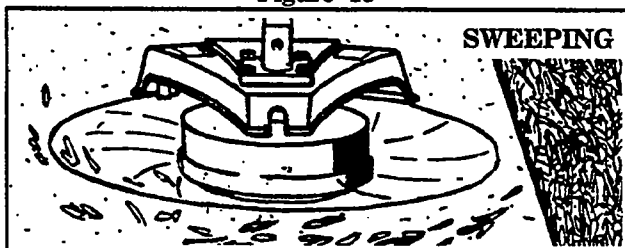

Figure 14
4. **SWEEPING** - Figure 14 . The fanning action of the rotating line can be used for a quick and easy clean up. Keep the line parallel to and above surfaces being swept and move tool from side to side.